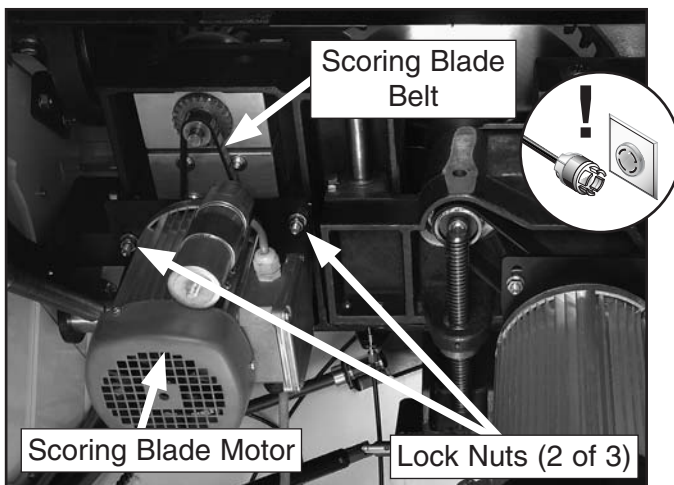

Figure 87. Scoring belt location.
4. Slightly loosen the three lock nuts that secure the motor plate to the main saw casting (**Figures 87–88**).